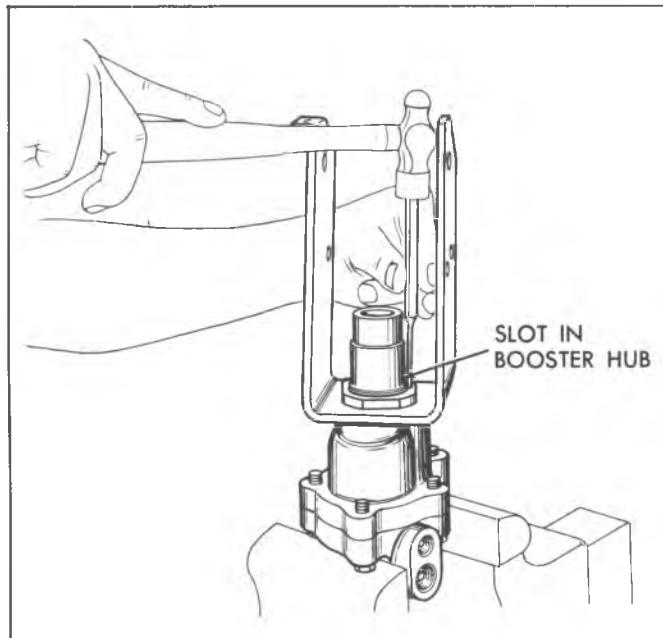

Fig. 5-7E--Staking Mounting Bracket Nut
15. Use a hammer and a small punch inserted into the staking groove of the nut, at the slot in the booster hub (fig. 5-7E), to stake the nut in place. Be sure that the outer thread of the nut is upset.